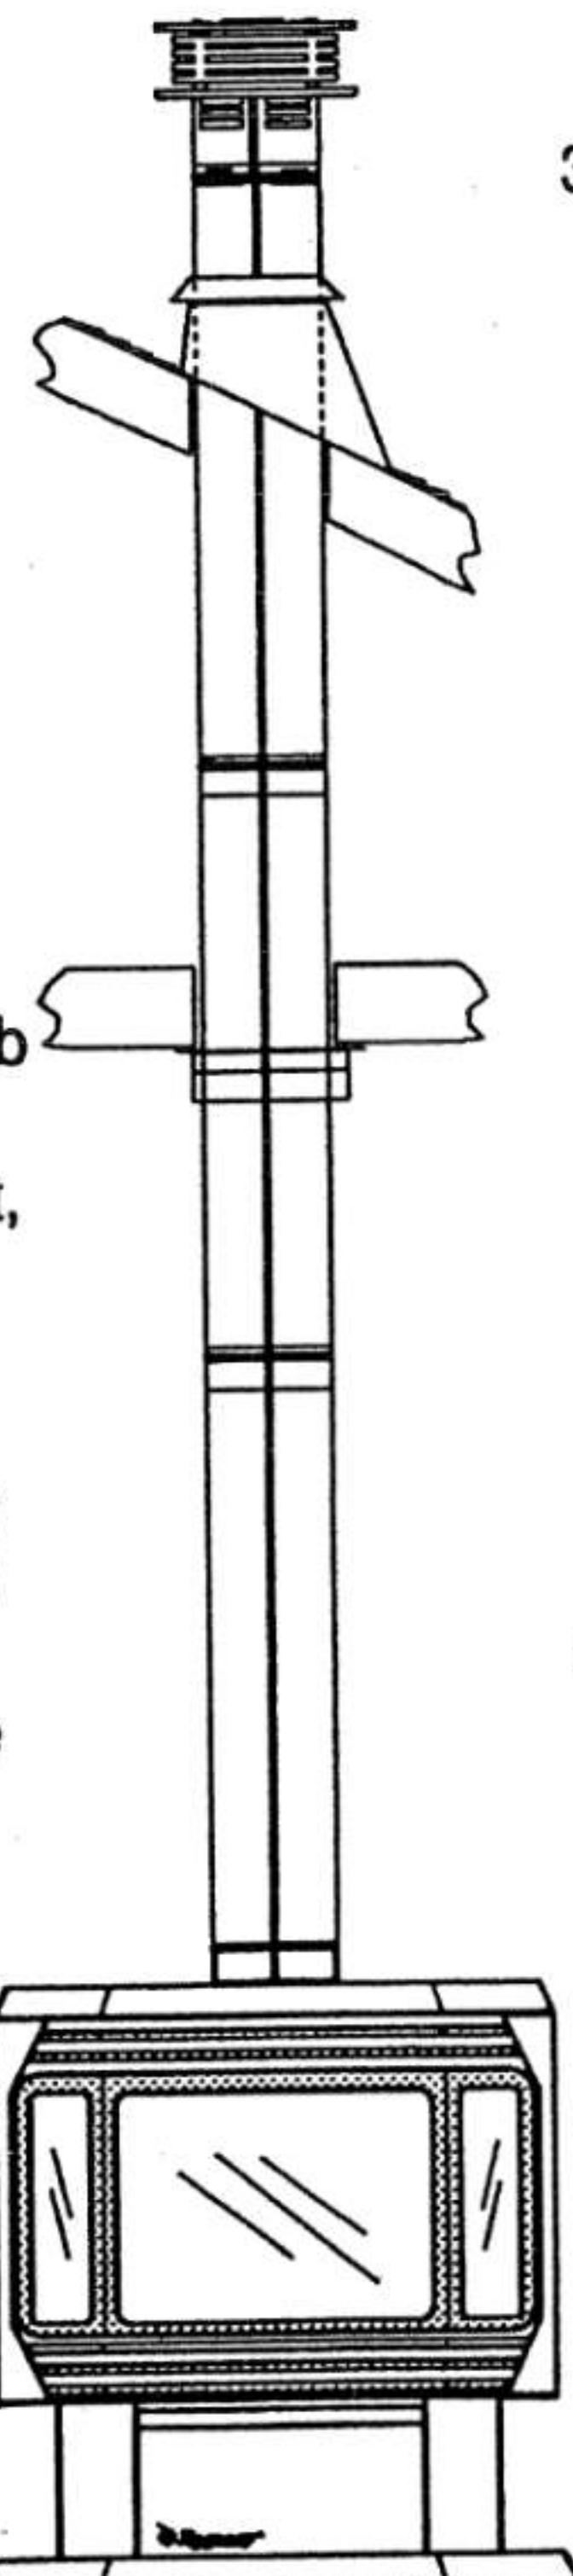

Fig. 6
1) Maintain the 1-1/4" clearances (air spaces) to combustibles when passing through ceilings, walls, roofs, enclosures, attic rafter, or other nearby combustible surfaces. Do not pack air spaces with insulation. Check pages 10 and 11 for the maximum vertical rise of the venting system and the maximum horizontal offset limitations. Fig. 6.